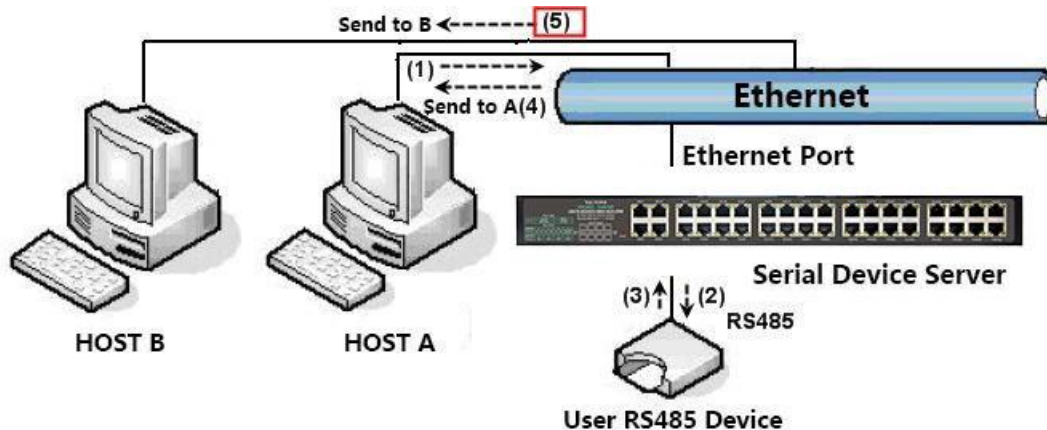

Figure 41 Multi-host function demonstration
As shown in Figure 41, "RS485 multi-host support" and "RS485 bus conflict detection function" are the multi-host functions. They are generally enabled and disabled
As shown in Figure 41, in the normal mode, when two hosts: host A and host B are connected to the serial server at the same time, host A sends (1) command, RS485 device receives (2) command, RS485 device returns (3)) command, but the serial port server will send (4) to host A and (5) to host B at the same time. Since the host B did not send the query, but it also received the response command (5), the host B may generate a communication abnormal error. In the multi-host mode, there will only be command (4) but not command (5), because the serial server will automatically remember the host that needs to be returned, and only return the instructions to the most recent communication host, and the query of host A will only reply to A, host B queries and replies to host B.
As shown in Figure 41, if the serial device (RTU device) is used as the master station and the network port device (Modbus TCP device) is used as the slave station, and there are multiple network port slave devices at the same time. At this time, you can use the method described in 6.2.2 Client Connecting Multiple Servers to let the serial port server as a client connect to these multiple network port devices at the same time.